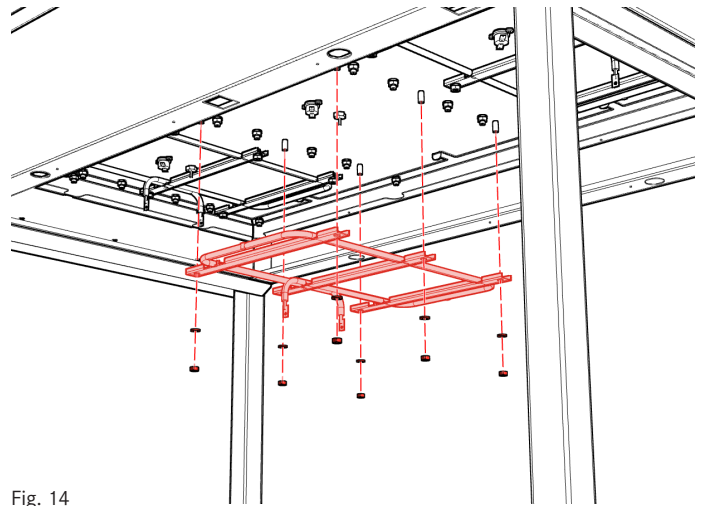

Fig. 14
4. For EACH heating element, remove six (6) acorn nuts fastening heating element brackets to unit (Fig. 14). Drop brackets and heating elements out of unit.